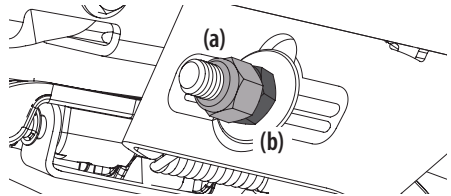

Figure 39
5. To **raise** the front of the deck, remove the end cap, loosen the outer jam nut (a) then tighten (thread inward) the inner nut (b) against the front hanger bracket. See Figure 39. When proper adjustment is achieved, re-tighten the outer jam nut (a) to 57 ft-lbs (77 N-m) and replace the end cap.
6. To **lower** the front of the deck, remove the end cap, loosen the outer jam nut (a) then loosen (thread outward) the inner nut (b), away from the front hanger bracket. See Figure 39. When proper adjustment is achieved, re-tighten the outer jam nut (a) to 57 ft-lbs (77 N-m) and replace the end cap.